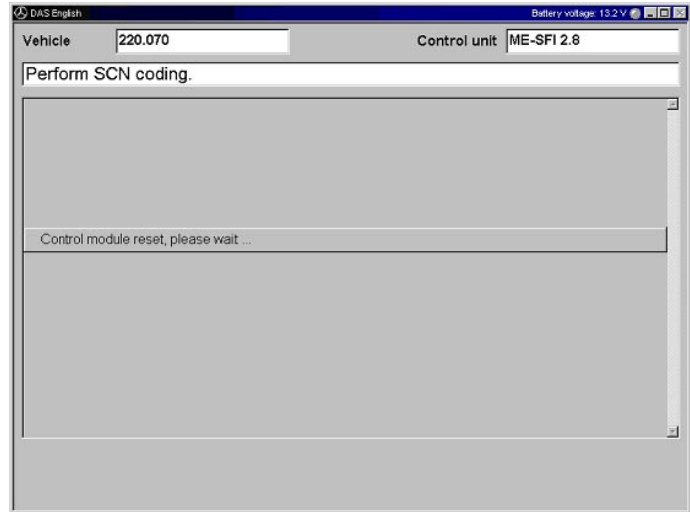

Figure 6
7. The Control Module will be reset. (Figure 6)